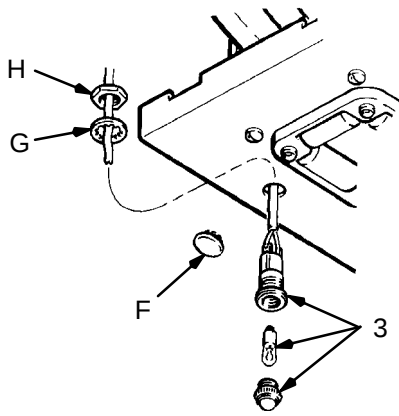

Fig. 4
4. Install one grommet (6) in hole (D) of the reel mounting base and one in hole (E) of the ready light junction box (*one hole in the box is not used*).
5. *For an enclosed reel*, remove the plug (F) from the reel enclosure cap. See Fig. 4. Install the ready light (3) as shown in Fig. 4, and secure it on the other side of the cap with the lockwasher (G) and nut (H).